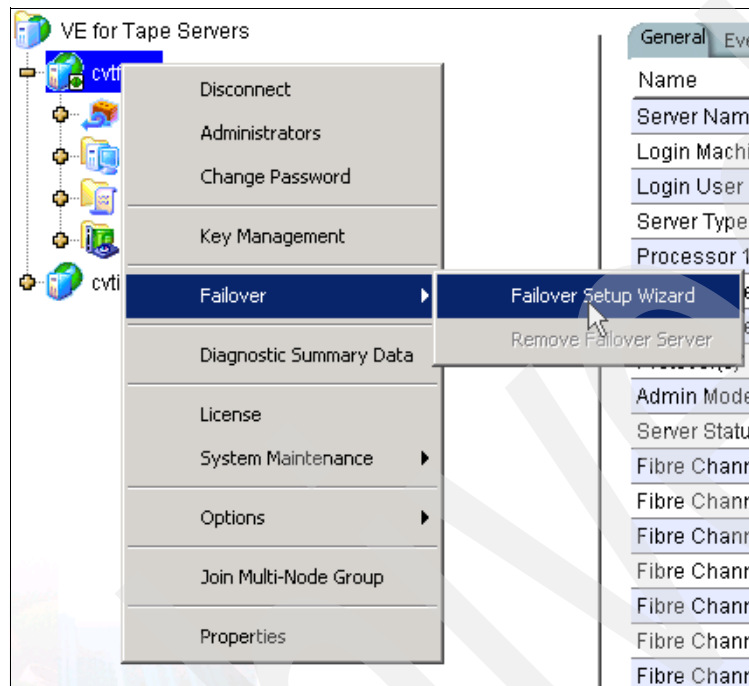

Figure 7-1 Starting the Failover Setup Wizard
1. Right-click one of the TS7530 icons in the VE Console and select **Failover** → **Failover Setup Wizard**, as shown in Figure 7-1.